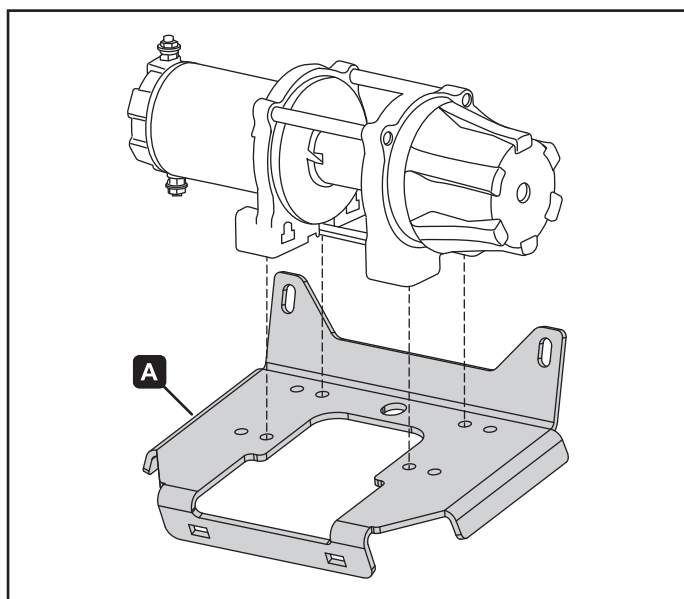

Figure 9. Winch install
6. Install your winch with the hardware provided with the winch as shown in figure 9.